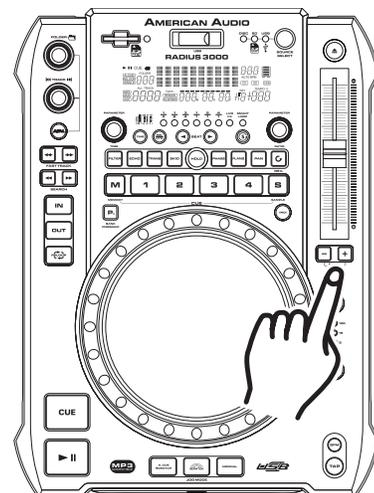
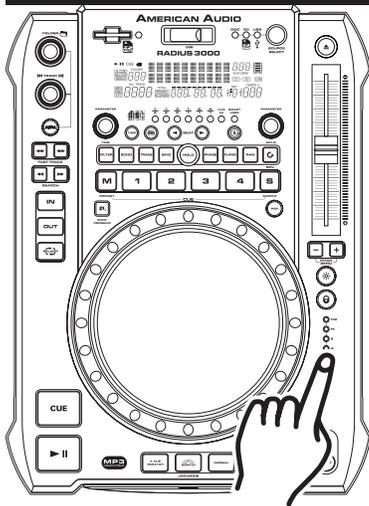

Figure 36
Figure 38
**Adjusting the PITCH SLIDER'S RANGE (8):** You may change the PITCH SLIDER'S (4) operating range at any time. To change the operating range be sure the pitch function is turned on, see figure 36. The pitch percentage range can be changed between +/-4%, +/-8%, +/-16%, and +/- 100%. 4% will allow the least amount of pitch manipulation and 100% will allow the most amount of pitch manipulation. To adjust the different ranges, press the PITCH ON/OFF BUTTON (6) and tap on the PITCH RANGE BUTTON (8) until your desired value is reached, see figure 38.